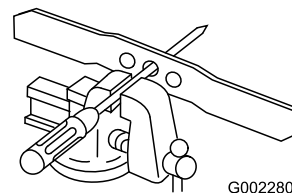

Figure 29
1. Check the balance of the blade by placing the center hole of the blade over a nail or screwdriver shank clamped horizontally in a vise (Figure 29).